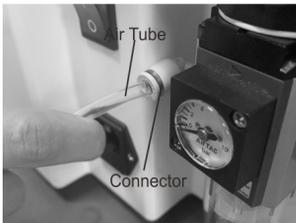

Figure 16
1. Remove the air tube from the connection. (As fig 16 shows)